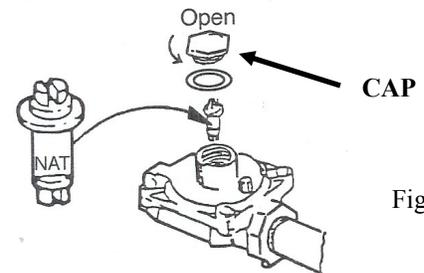

Fig. 2
- A. Remove cap from regulator and snap out plastic plunger from bottom of cap. See Fig. 2